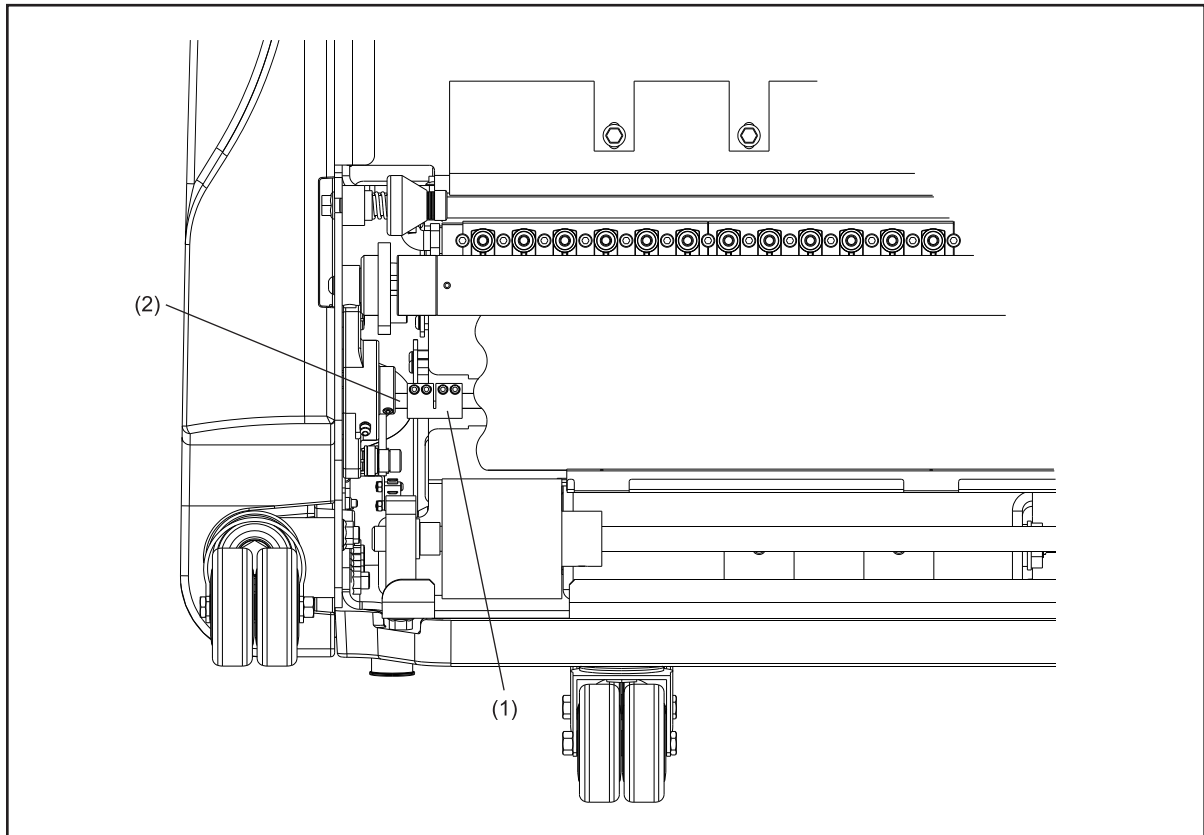

Figure 6-20 Collar
12. Locate the collar, on the 10-pin side, bottom of the machine (found directly under the dispersion roller) that holds the two sides of the brush lifting shaft. Refer to *Figure 6-20*.